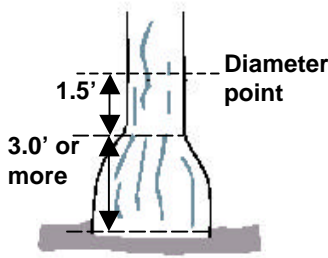

Figure 14. Bottleneck tree
3. Tree with butt-swell or bottleneck: Measure these trees 1.5 ft above the end of the swell or bottleneck if the swell or bottleneck extends 3.0 ft or more above the ground (Figure 14)
9. Missing wood or bark. Do not reconstruct the DBH of a tree that is missing wood or bark or at the point of measurement. Record the diameter, to the nearest 0.1, of the wood and bark that is still attached to the tree (Figure 19). If a tree has a localized abnormality (gouge, depression, etc.) at the point of point of DBH, apply the procedure described for trees with irregularities at DBH (Figure 14).